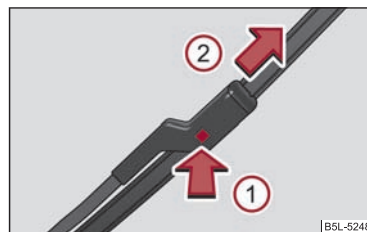

Fig. 51 Wiper blade for the windscreen wiper
- Press the locking button ① ⇒ fig. 51, in order to unlock the wiper blade and pull off in the direction of arrow ②. ▶